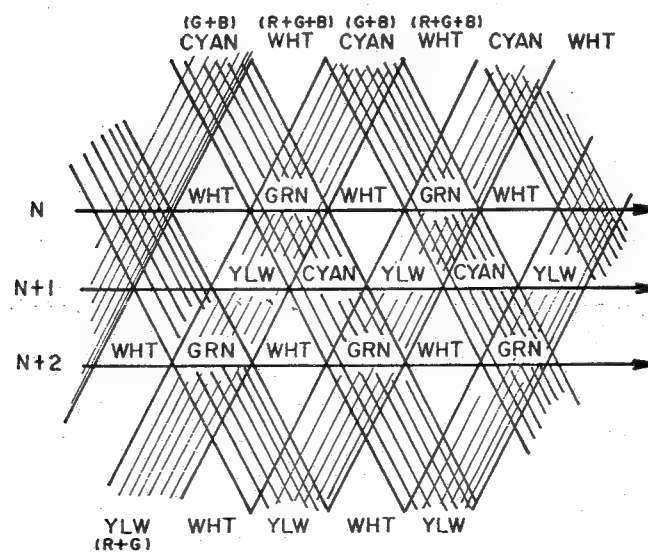
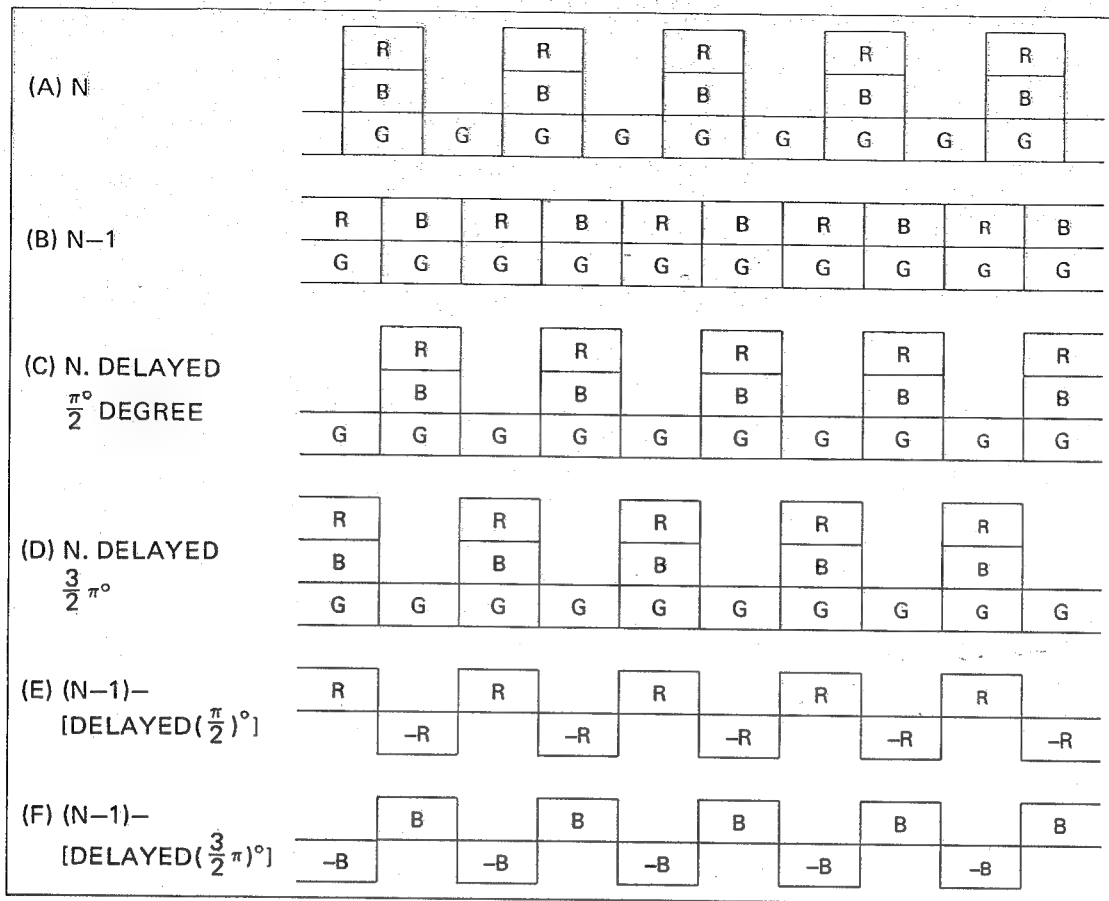
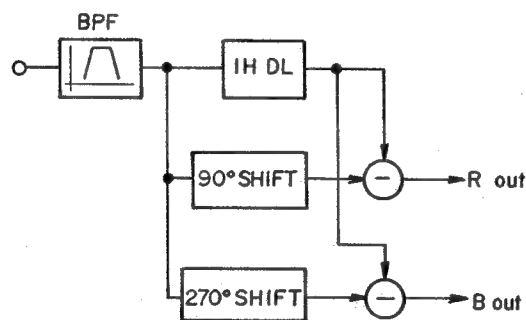

Fig. 5-14 Stripe Filter
Fig. 5-15 Output Waveforms
Fig. 5-16 Color Separation Circuit
On the stripe filter, yellow and cyan stripes intersect at a specified angle from the vertical as illustrated in Figure 5-14. Scanning takes place horizontally from left to right.
Suppose that a white subject is being shot. Various voltage waveforms resulting from photoelectric conversion through the stripe filter in the Saticon are shown in Figure 5-15.
The waveform in Figure 5-15, (A) is produced when the repeated white/green portion on the stripe filter is scanned along a straight line.
Then, as the next scanning line passes over the repeated cyan/yellow portion, the waveform shown in Figure 5-15, (B) is generated.
The basic circuit used for the purpose is shown in Figure 5-16. With VC-X2, a signal which has its phase shifted 270° is produced in IC9 AN6031. If waveform (A) in Figure 5-15 is supplied to this color separation circuit, it will be shifted 90° by TR5, resulting in the waveform shown in Figure 5-15 (C) being produced. In addition,
after being inverted and shifted 270° within IC9 AN6031, the waveform should appear as shown in Figure 5-15 ⑤. When the waveform ⑤, obtained by delaying waveform ④ by 1H, is electrically subtracted from the waveforms ③ and ⑤, the R-signal and B-signal are separated.
To detect the dark current, a black mask is mounted on part of the image pick-up tube as illustrated in Figure 5-14. The purpose of the black mask is to prevent the incident light from entering the tube for part of the horizontal scanning time. A black current is the current that flows at the time the masked portion is scanned by the beam. The output waveform is shown in Figure 5-15. During the time when the dark current only is flowing, the black level of the video signal is maintained at a given level for a period of time during which the clamp pulse is supplied to the base of TR1, which forms part of a clamp circuit consisting of C1, C2, TR1, R1 and R2. (See Figure 5-16.)